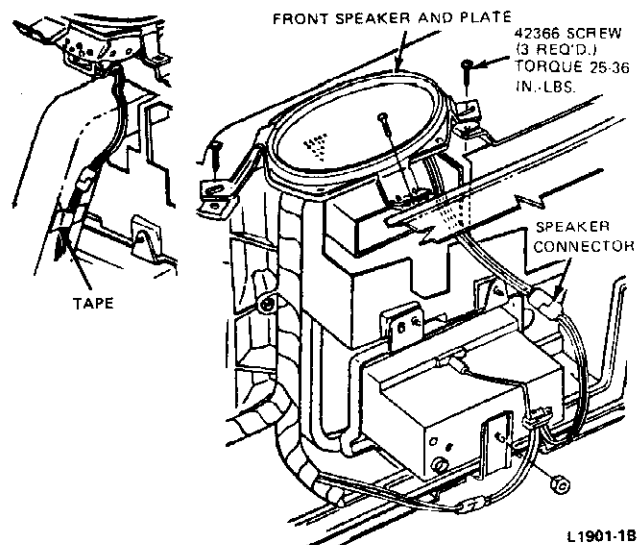

FIG. 4 Front Speaker Installation—Mustang II
3. Remove the speaker-to-plate retaining screws and remove the speaker from the plate (Fig. 4).